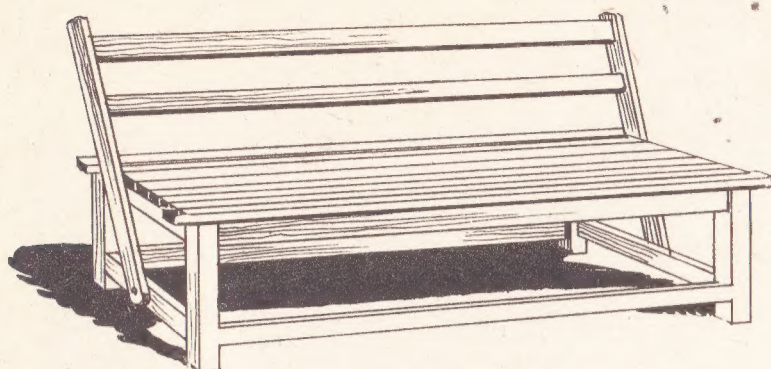

Fig. 1—The completed seat
**A** GOOD garden seat is almost a necessity to a garden and lawn of any reasonable size. The seat shown in Fig. 1 is so constructed that the back rest is adjustable, being pivoted to a lower side rail so that it can be swung back to suit the direction of the sun. Thus, the full benefit of the sunshine can be felt regardless of what position the seat takes on lawn or garden.